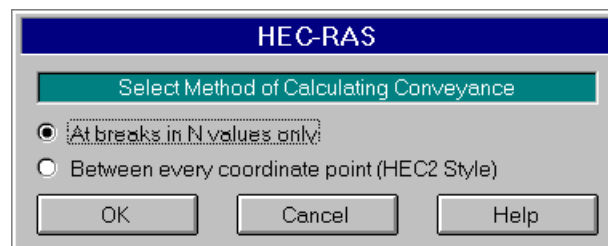

Figure 3.18 HEC-RAS Conveyance Calculation Methods
2. The default method for calculating conveyance in HEC-RAS is different from HEC-2. However, HEC-RAS has the ability to compute conveyance with the HEC-2 methodology. If you are trying to reproduce HEC-2 results, you may want to switch HEC-RAS to the HEC-2 method of computing conveyance. To do this, from the Steady Flow Analysis window select **Options** from the menu bar then select **Conveyance Calculations**. When this is selected, a pop up window will appear as shown in Figure 3.18. There are two options available, the HEC-RAS default method (break in n-value method) and the HEC-2 style method. Select the HEC-2 style method if you are trying to reproduce HEC-2 results. For more information on the differences in conveyance calculations, see Appendix C of the HEC-RAS Hydraulic Reference manual.